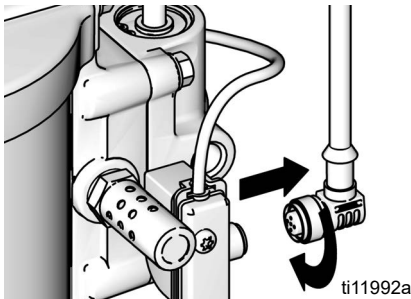

FIG. 18. Disconnect DataTrak
1. Unscrew cable from the back of the reed switch assembly. See FIG. 18.